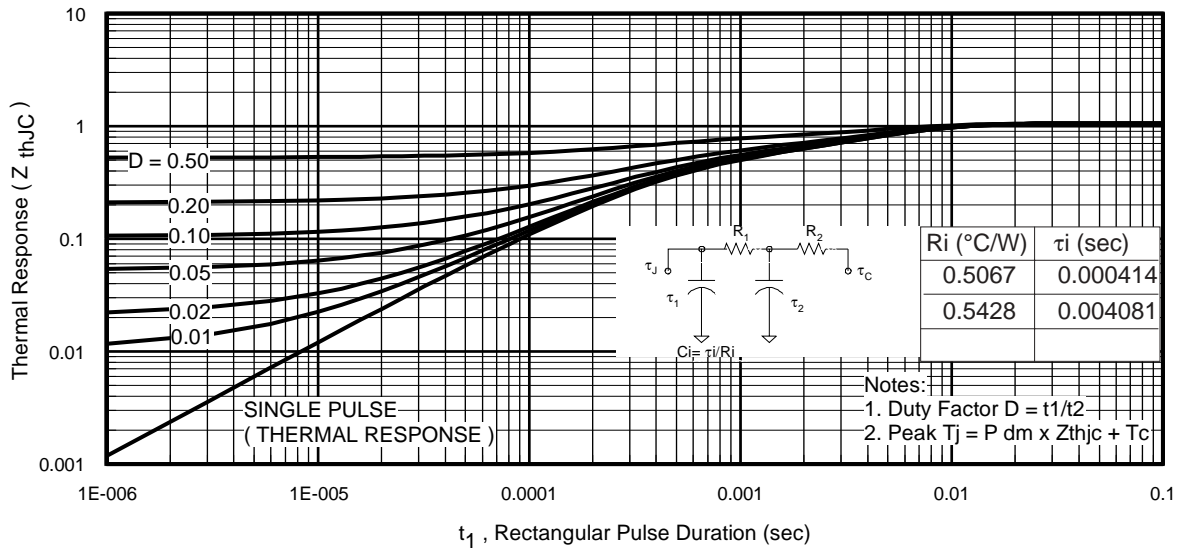
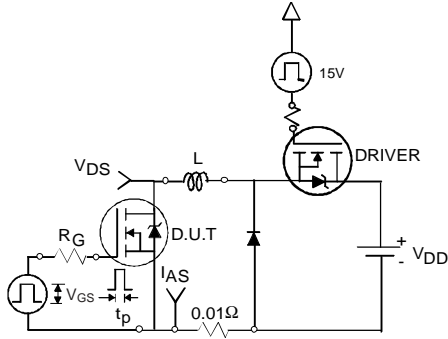

Fig 11. Maximum Effective Transient Thermal Impedance, Junction-to-Case
Fig 12a. Unclamped Inductive Test Circuit
3. Equation below based on circuit and waveforms shown in Figures 12a, 12b.
$Z_{thJC}(D, t_{av})$ = Transient thermal resistance, see figure 11)
- ① Repetitive rating; pulse width limited by max. junction temperature. (See fig. 11).
- ② Limited by T_{Jmax} , starting $T_J = 25^\circ\text{C}$, $L = 0.16\text{mH}$, $R_G = 25\Omega$, $I_{AS} = 42\text{A}$, $V_{GS} = 10\text{V}$. Part not recommended for use above this value.
- ③ Pulse width $\leq 1.0\text{ms}$; duty cycle $\leq 2\%$.
- ④ C_{OSS} eff. is a fixed capacitance that gives the same charging time as C_{OSS} while V_{DS} is rising from 0 to 80% V_{DSS} .
- ⑤ Limited by T_{Jmax} , see Fig.12a, 12b, 15, 16 for typical repetitive avalanche performance.
- ⑥ This value determined from sample failure population. 100% tested to this value in production.
- ⑦ When mounted on 1" square PCB (FR-4 or G-10 Material). For recommended footprint and soldering techniques refer to application note #AN-994